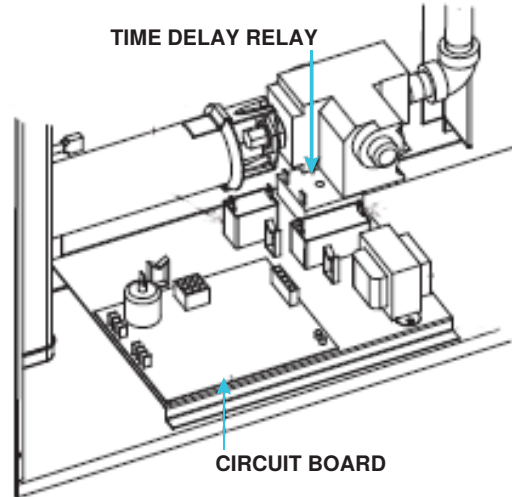

Figure 51. Existing Circuit Board and Time Delay Relay
2. Remove access panel to gain access to existing circuit board and time delay relay (see Figure 51).